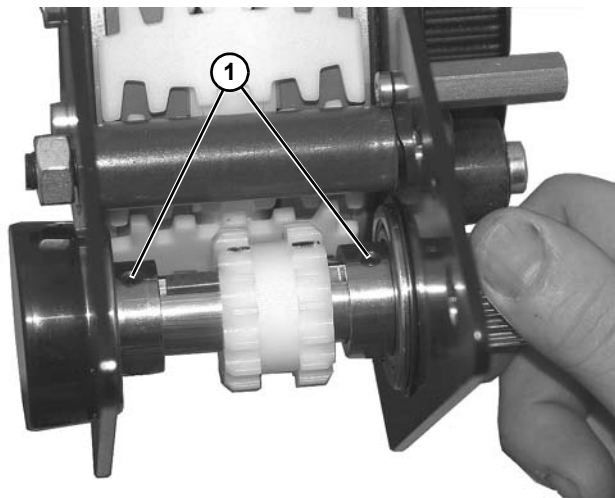

Figure 170
2. Secure drive shaft onto bearings with two set screws (**Figure 170, item 1**).